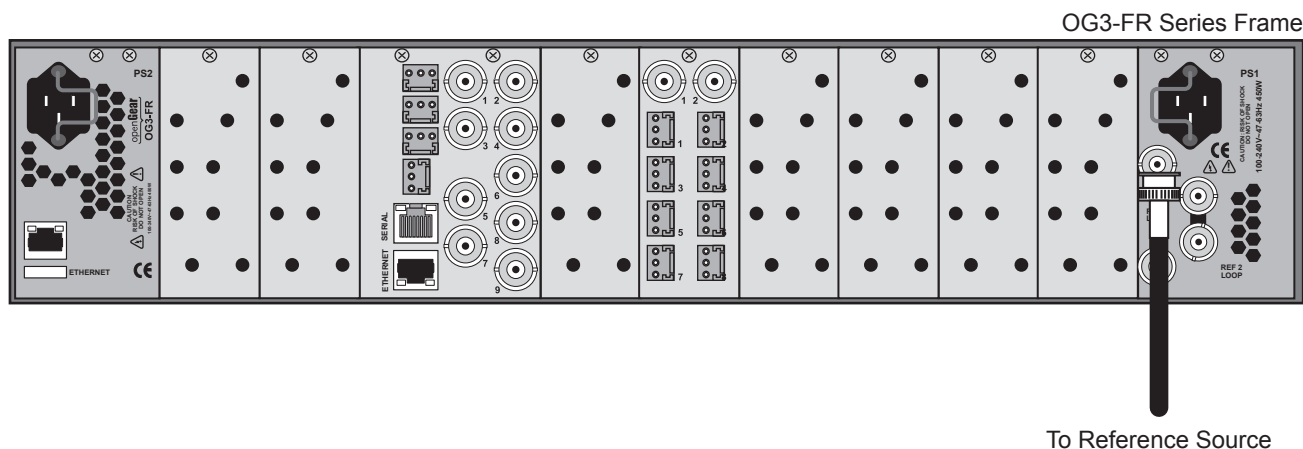

Figure 6.3 Cabling — Reference Input from the openGear Frame
**Figure 6.3** illustrates the cabling connection when using the reference signal available via the openGear frame.